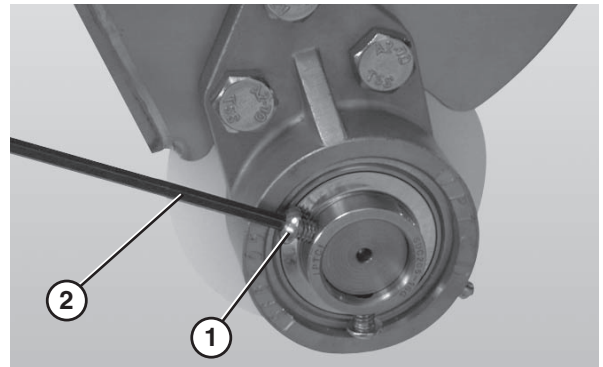

Figure 75
5. Tighten the 3 hole flange with bearing fasteners (**Figure 75, item 1**) using a hex wrench (**Figure 75, item 2**) to 6 N•m (54 in•lbs). Check after 24 hours of conveyor use.